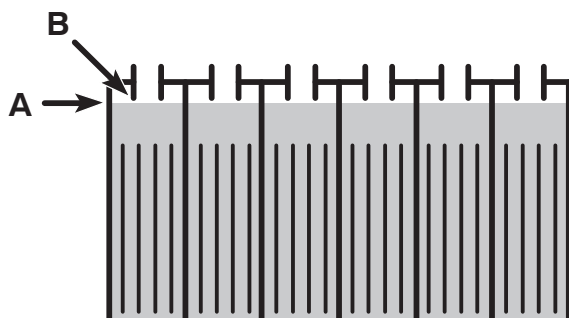

FIG. 25
- After charging, check the electrolyte level (A) again. The level should be approximately 1 cm from the bottom of the fill-port (B) (Figure 25). Add distilled water if needed. **DO NOT OVERFILL.**